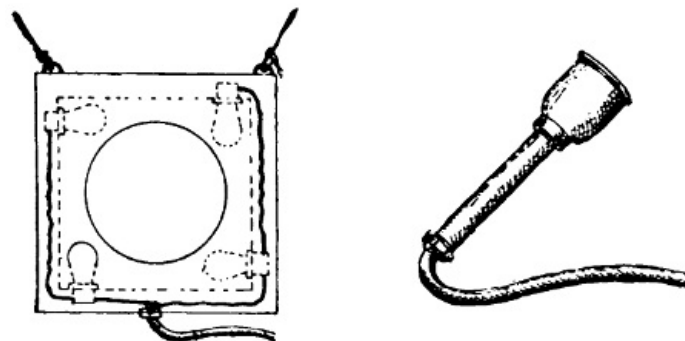

FIGURE 202.
*Moon Boxes.*—These boxes are generally made up as shown at the left in Figure 202. The opening is from twelve to fourteen inches in diameter. Four lamps give very good illumination. The frame must be provided with hooks so that it may be suspended at any desired part of the scenery. It is always hung close behind a curtain and must be so arranged that the lamps cannot touch the curtain. The wires should be entirely enclosed in metal of No. 20 sheet metal gauge after the manner of strips. Very cheap productions often carry moon boxes made up of an incandescent lamp fastened in a tin dish, similar to the one shown at the right in Figure 202.